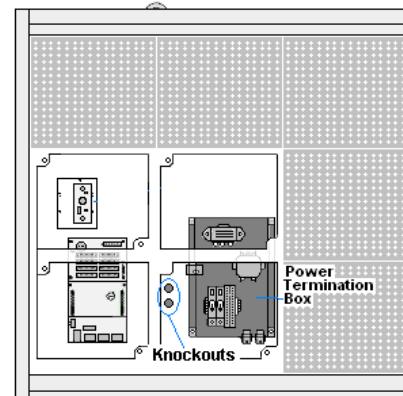

Figure 9: Power Panel Location
1. Open the display as explained in **Section 6.1** and locate the power termination panel (**Figure 9**).